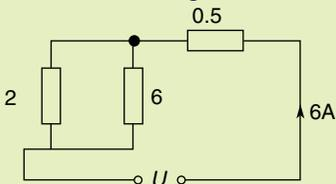

Figure 19
2. For the circuit of Figure 19, find